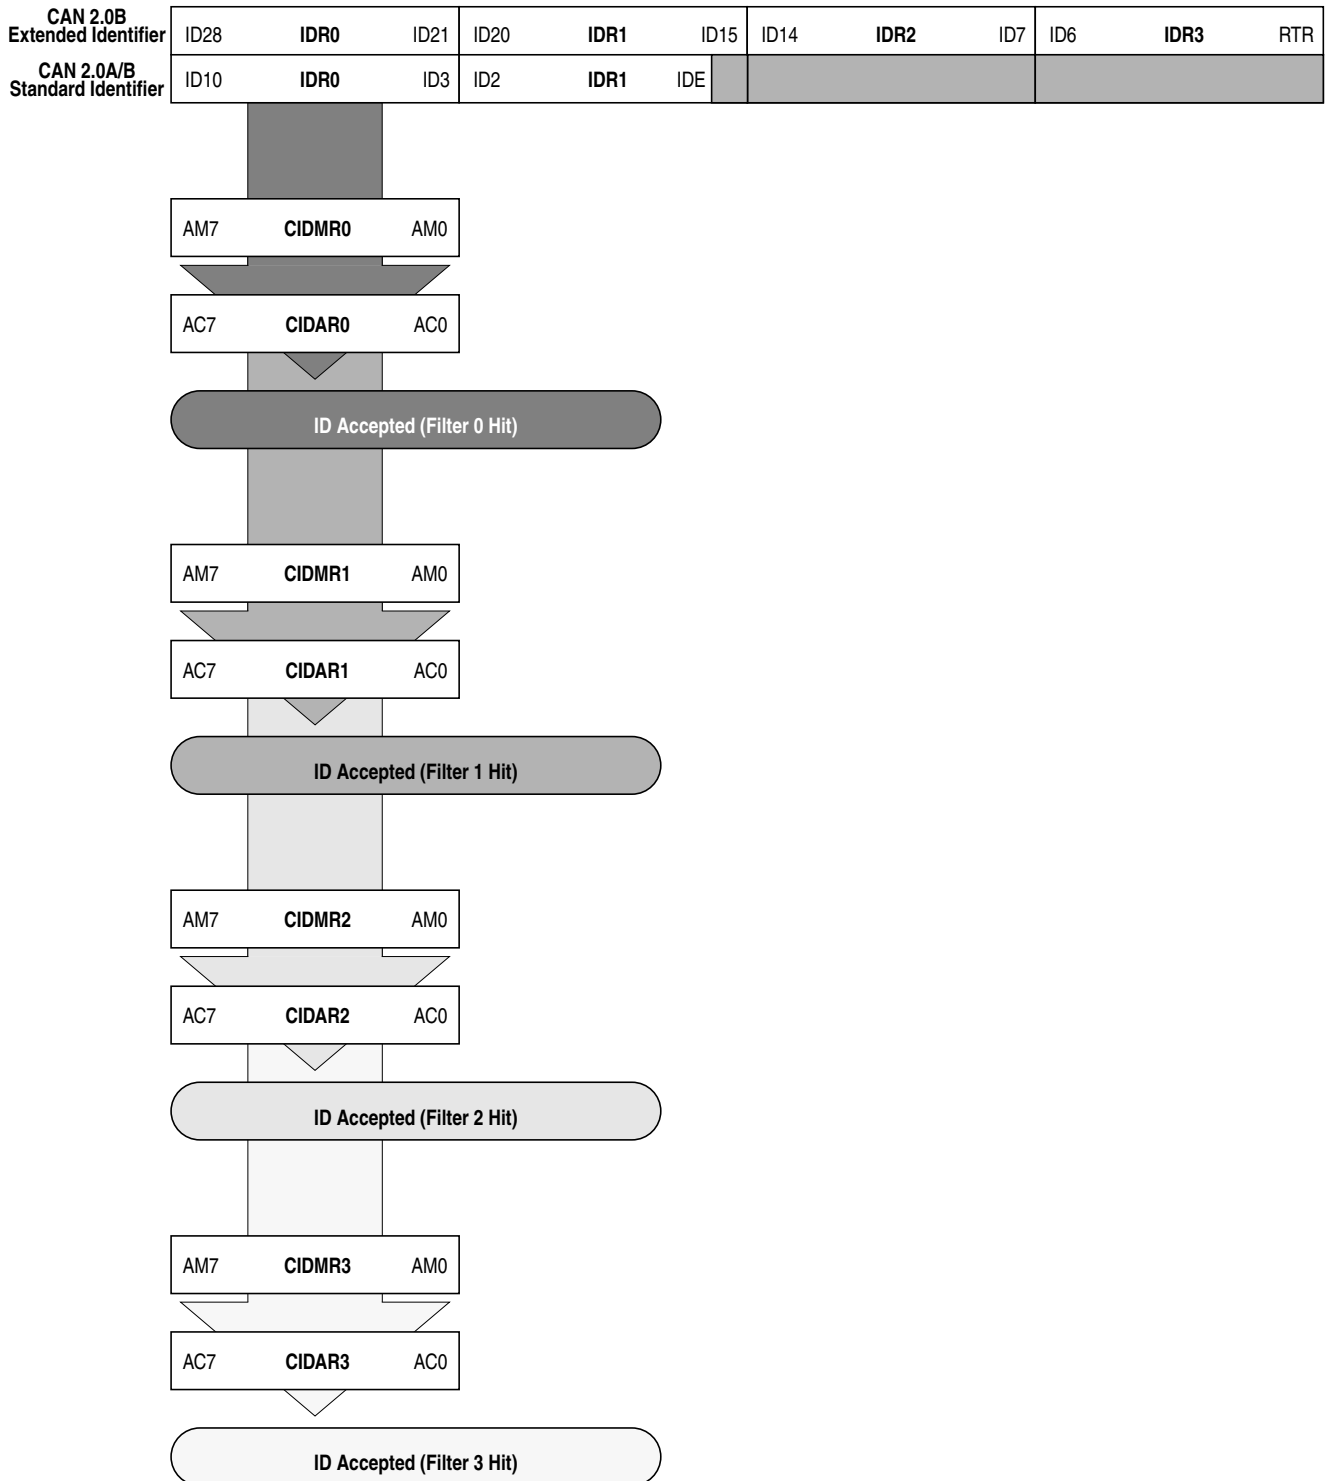

Figure 10-42. 8-bit Maskable Identifier Acceptance Filters
- Eight identifier acceptance filters, each to be applied to the first 8 bits of the identifier. This mode implements eight independent filters for the first 8 bits of a CAN 2.0A/B compliant standard identifier or a CAN 2.0B compliant extended identifier. Figure 10-42 shows how the first 32-bit filter bank (CANIDAR0–CANIDAR3, CANIDMR0–CANIDMR3) produces filter 0 to 3 hits. Similarly, the second filter bank (CANIDAR4–CANIDAR7, CANIDMR4–CANIDMR7) produces filter 4 to 7 hits.